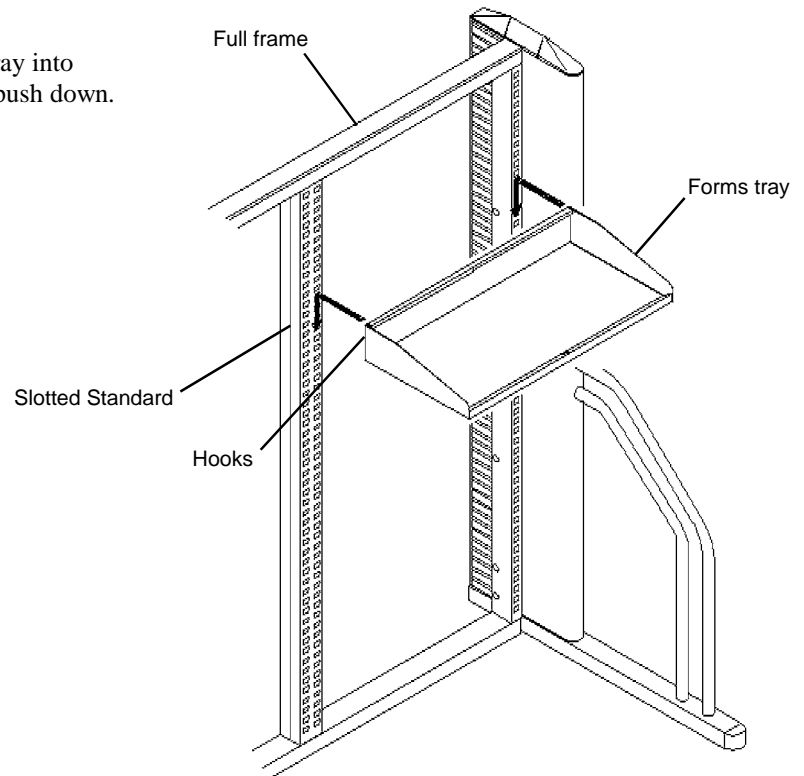

Figure 1
2. Insert the hooks on the back of the Forms Tray into the slotted standards on the Full Frame and push down. See **Figure 1**